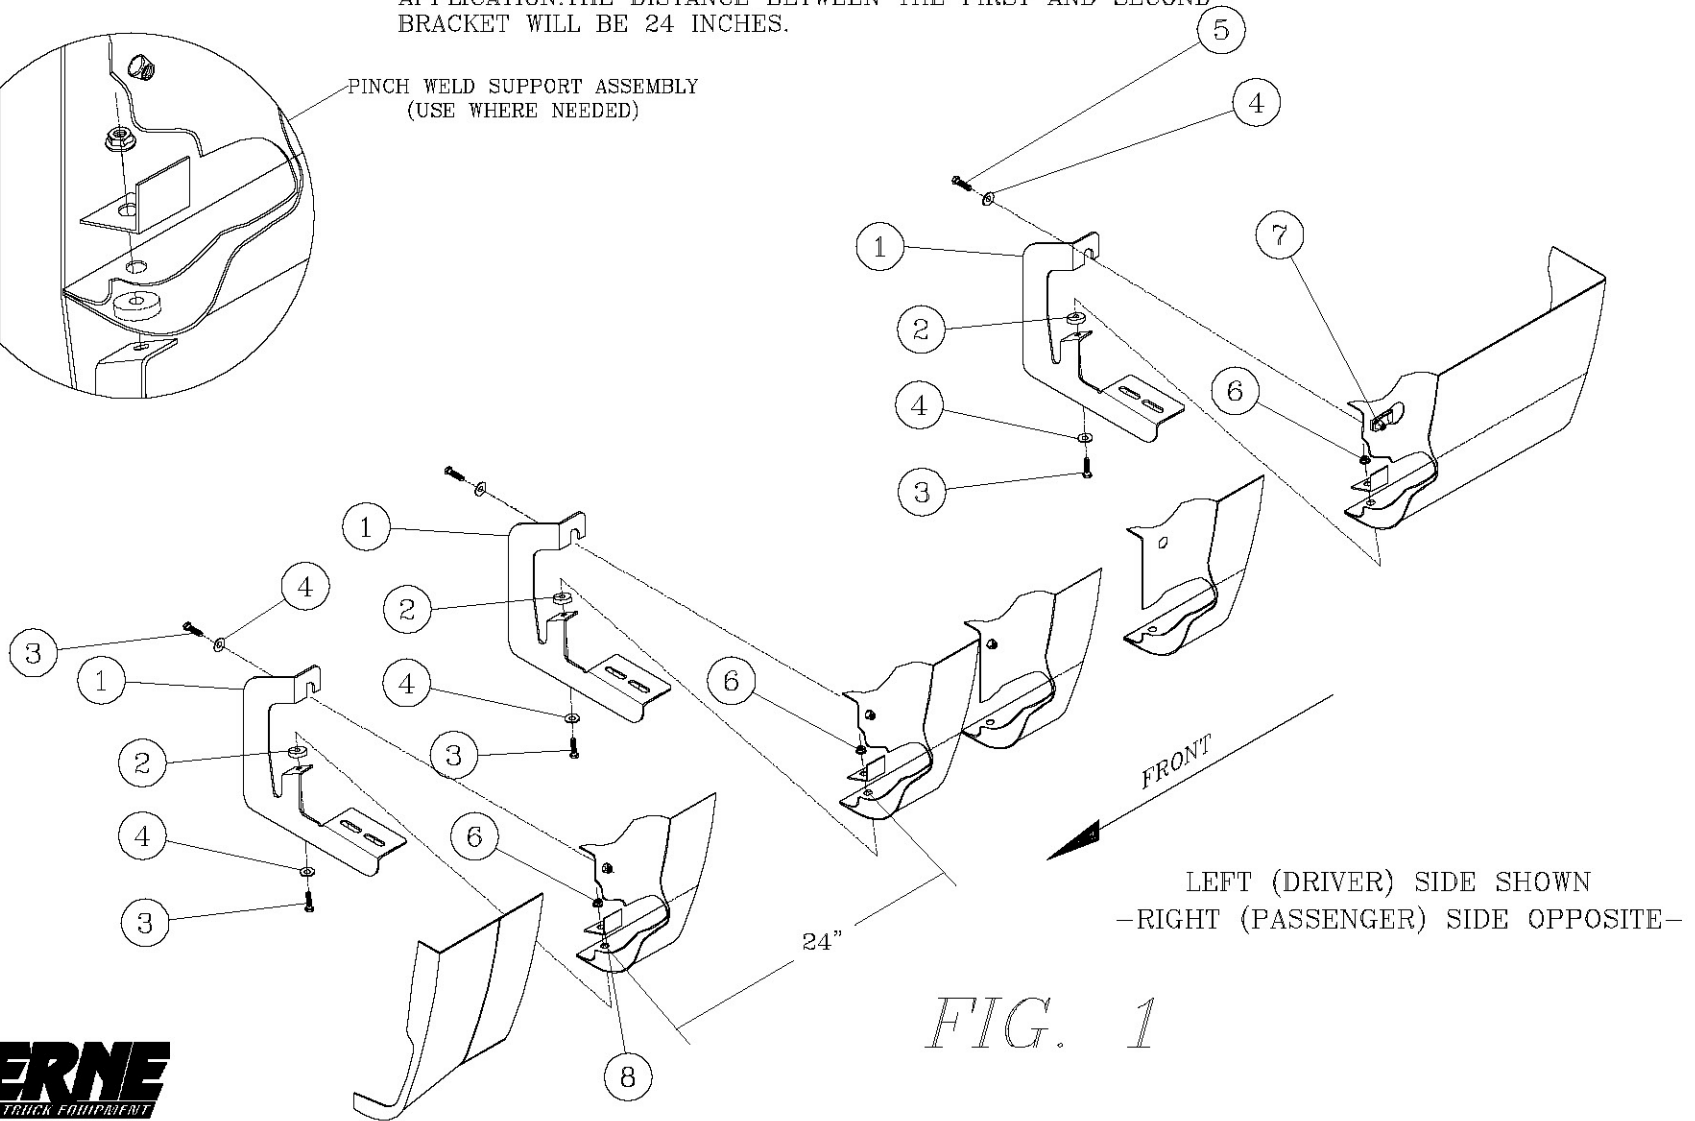

FIG. 1
2. ATTACH THE MOUNTING BRACKETS TO THE VEHICLE AS FOLLOWS: [SEE FIG. 1 & 2]
- 2.2 INSERT 5/16" MULTI-THREAD U-NUT (ITEM #7) INTO THE UPPER HOLES IN THE ROCKER PANEL (SEE FIG. 1).